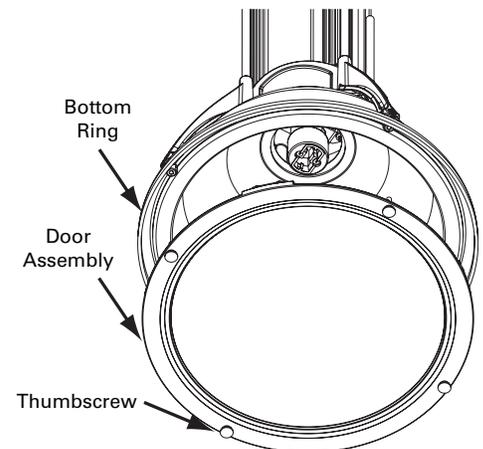

FIG. 4
16. Loosen the four (4) thumbscrews while carefully holding the door assembly as it is not tethered. **FIG. 4**
18. Reassemble door assembly to fixture with full engagement of four (4) thumbscrews with bottom ring.
1. Loosen the four (4) thumbscrews while carefully holding the door assembly as it is not tethered. **FIG. 4**
5. Reassemble door assembly to fixture with full engagement of four (4) thumbscrews with bottom ring.